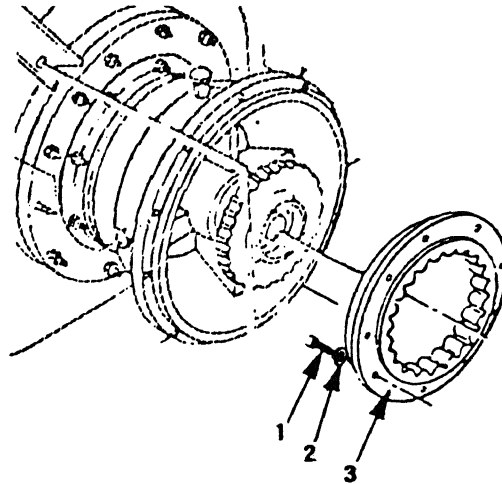

Figure 5-67. Coupling Flange, Removal/Installation
- (1) Remove pump assembly (para 5-19).
- (2) Remove bolts (1, figure 5-67) and lockwashers (2) from coupling flange (3).
- (1) Position coupling flange (3, figure 5-67) in place on engine flywheel and secure with bolts (1) and lockwashers (2).
- (2) Install pump assembly (para 5-19).